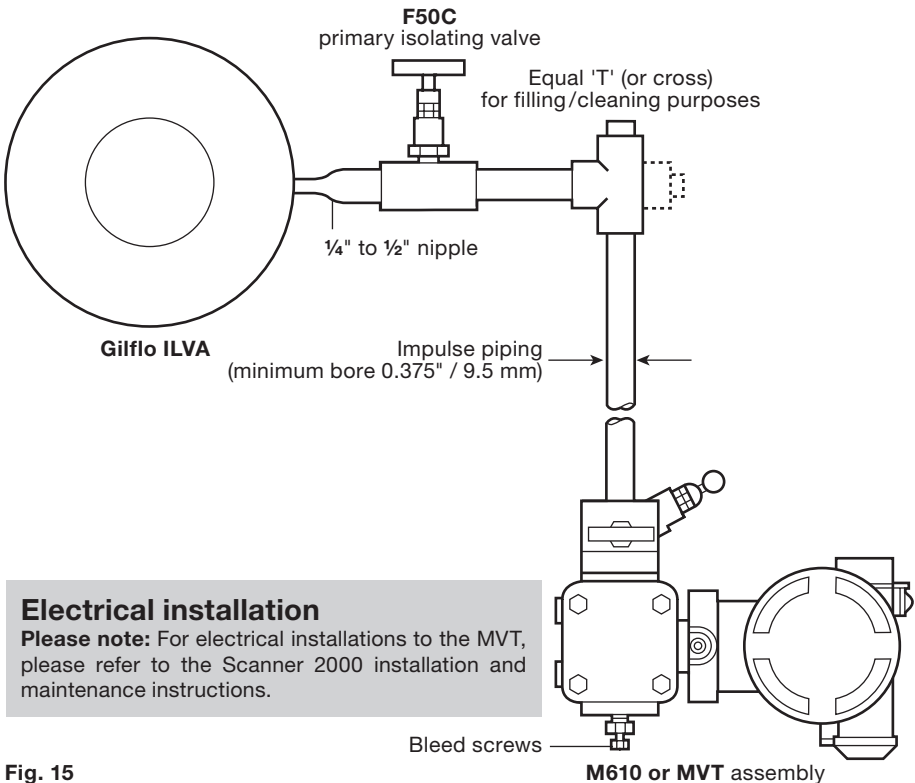

Fig. 15
- 6.1.3 Fill both impulse lines with water (with antifreeze if required) through the equal 'T' (Figure 15).